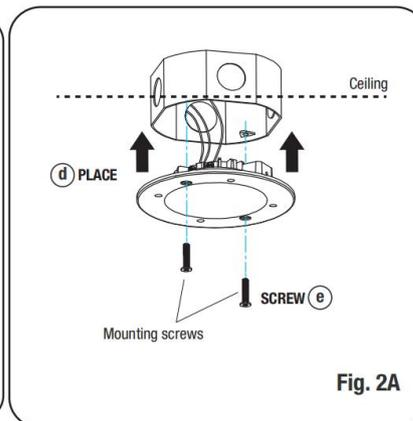

Fig. 2A
4. Place the luminaire on the ceiling recessed junction box (Fig. 2A step "d").
5. Install the luminaire to the junction box by tightening the two mounting screws (included). (Fig. 2A, step "e")